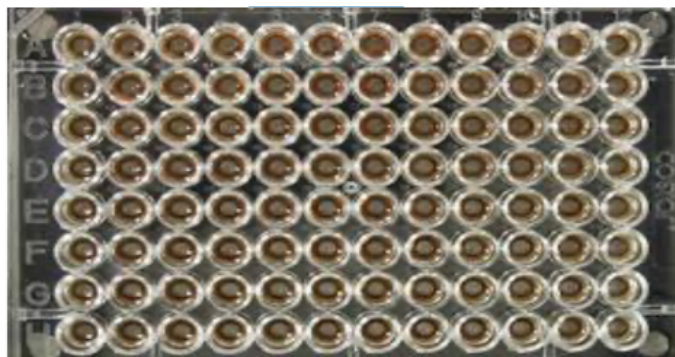

Figure 5: Extraction plate during wash step on magnetic plate.
10. After the 5 minute incubation, remove as much of the 400 μ L of the supernatant as possible. Be careful not to disturb or aspirate the beads. See Figure 5.